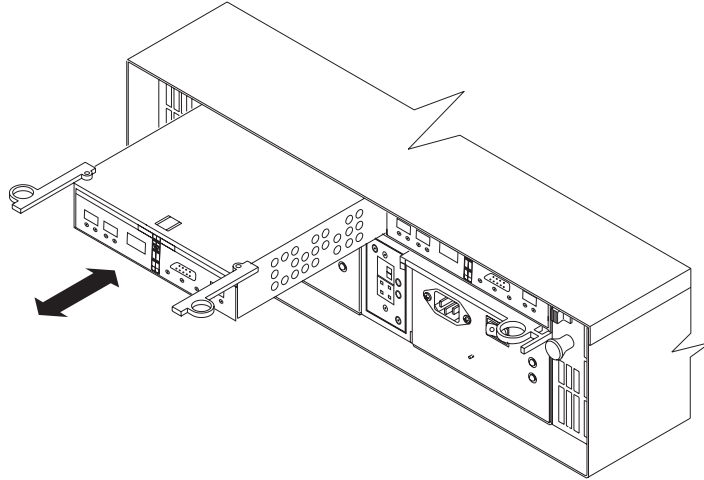

Figure 74. Installing a new RAID controller
20. Install the RAID controller, as shown in Figure 74 on page 97.